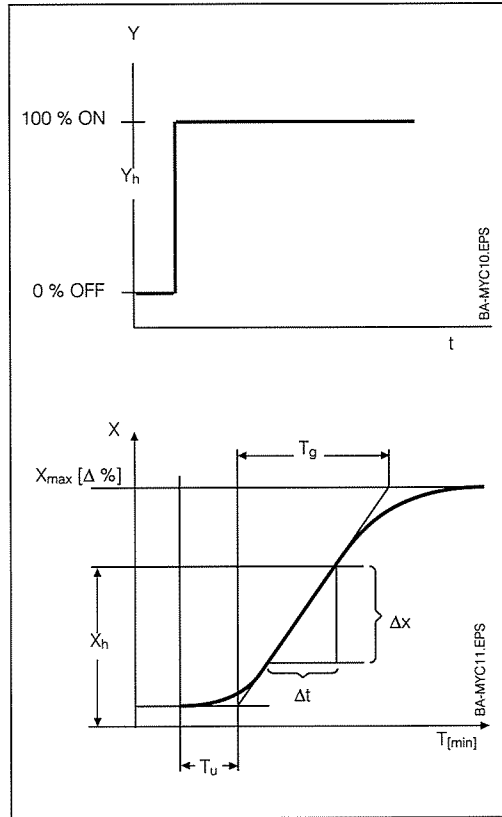

Fig. 9.8: Step response of process
- Step response of process (fig. 9.8)
The following relationship results from the step response according to fig. 9.8: